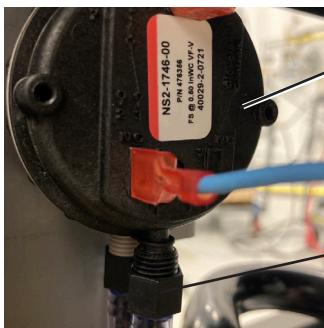
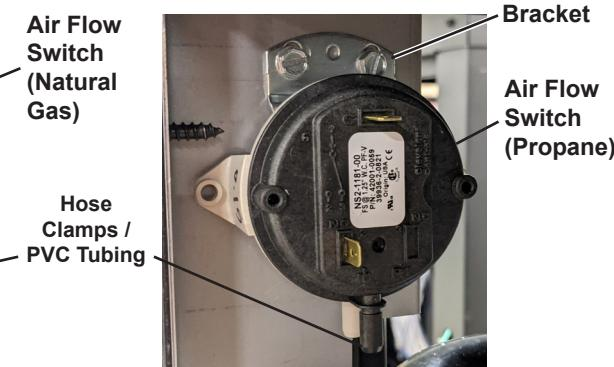

Figure 8.
Figure 9.
11. Remove the Air Flow Switch with the Red line on the label. See Figure 8. Remove the bracket from the Air Flow Switch and attach it to the new Air Flow Switch. Attach the bracket to the heater and secure PVC tubing to Air Flow Switch with the provided hose clamps. See Figure 9.